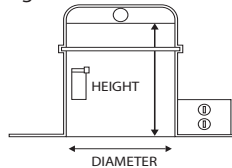
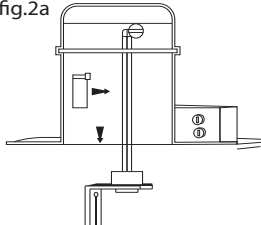

fig.2a
fig.2b
Step 2. Unscrew the lamp socket mounting bracket inside the recessed housing (fig.2a). Unclip the lamp socket from the bracket and discard the bracket (fig. 2b).